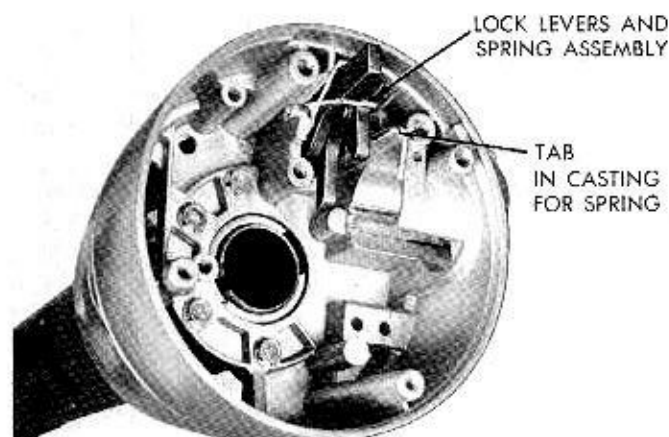

Fig. 11—Lock Levers and Spring Assembly Installed in Housing
(6) Grasp lock lever and spring assembly and pull straight out of housing (Fig. 11).
ing. Seat the pin firmly into the bottom of the slots. Make sure that the lock lever spring leg is firmly in place in lock casting notch (Fig. 11).